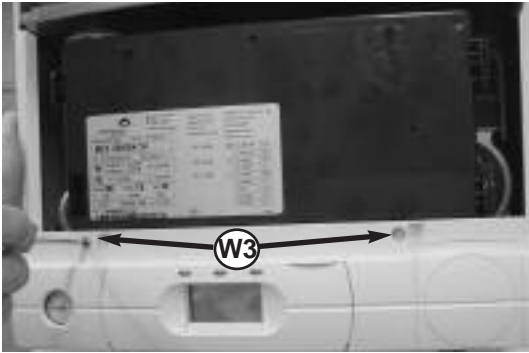

Fig. 108
- Remove the two screws **W3** from the front control panel and lower the front control panel (see *Fig. 108*);